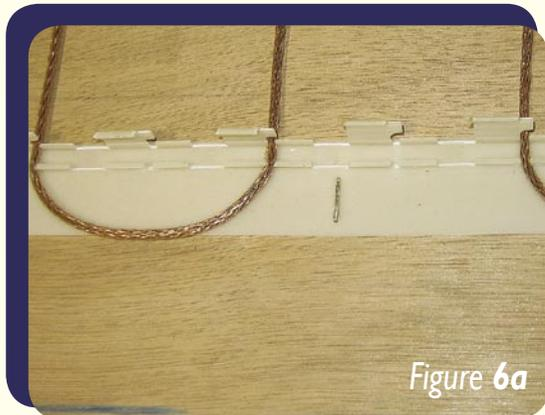

Figure 6a
- Carefully pull the *Return Loops* into the hairpin turn ensuring that the cable does not pop out of the slot on either side of the loop. Pulling too firmly or suddenly may cause the cables to disengage from the strapping (**Figure 6a**). The loop should not extend beyond the outside edge of the strapping.